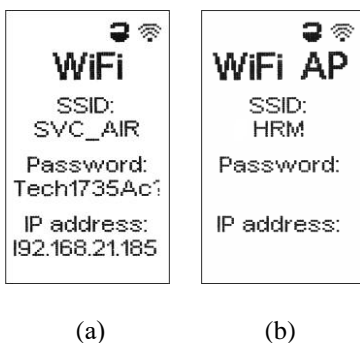

Figure 10 – Information about WiFi
**Important!** Figure 10 (a) shows, for example, that when the control unit is turned on, it will try to connect to the open WiFi network of the “SVC\_AIR” router (since the Password field is empty). If it succeeds, the WiFi status  will be displayed, and the address will be in the “IP address” field. If the connection fails, the control unit will create an access point (WiFi network) with the data shown in Figure 10 (b).
Data about the control unit’s own access point are in the WiFi information, namely WiFi AP ((see Fig. 10(b)), where:
In the address bar of the browser (Chrome, Edge, Firefox, Opera ...), you need to enter the data to open the web interface (“IP address” field, Figure 10(b)). The main window of the web interface will open (see Fig. 19 (a)).
If the device is connected to an existing WiFi network, the “IP address” field of “WiFi AP” (see Fig. 10(b)) is empty, and the “IP address” field with “WiFi” (see Fig. 10(a) ) indicates the new IP address issued by the DHCP server or the one specified in the settings.